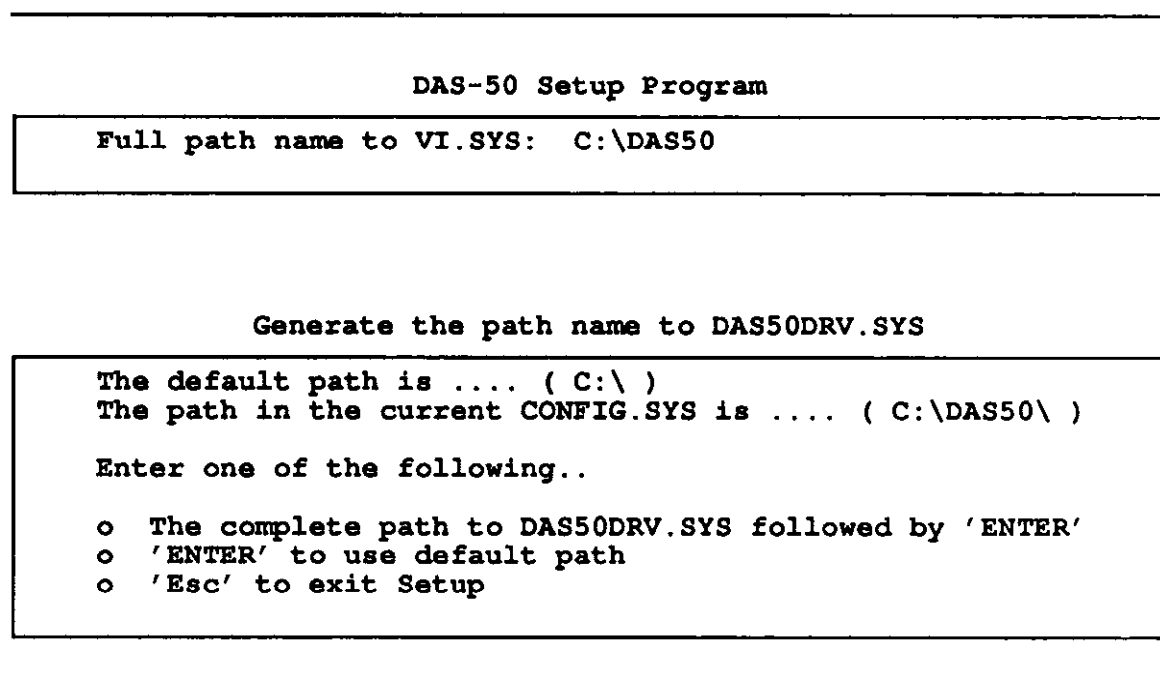

Figure 3-9. Generating the DAS50DRV.SYS Path
5. Next, the program will ask you for the information required to setup the DAS-50 driver. It first prompts you for the path name to the file *DAS50DRV.SYS*. (See Figure 3-9.)